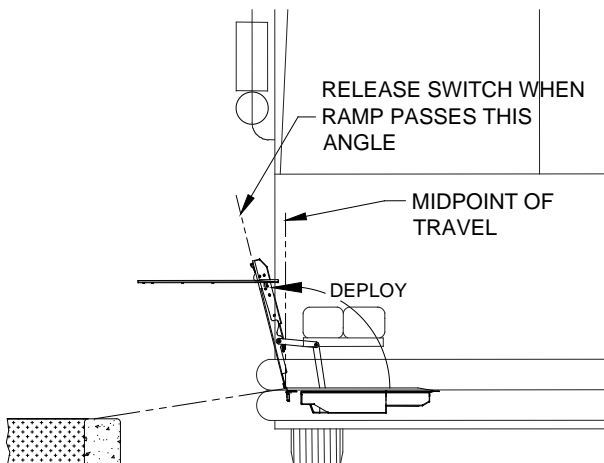

FIGURE 3-2: RAMP MIDPOINT DURING DEPLOY
- 2) Refer to **Figure 3-2**. Move ramp control switch to DEPLOY position. Hold switch in DEPLOY until ramp has **passed** 3/4 of its travel, then release switch.